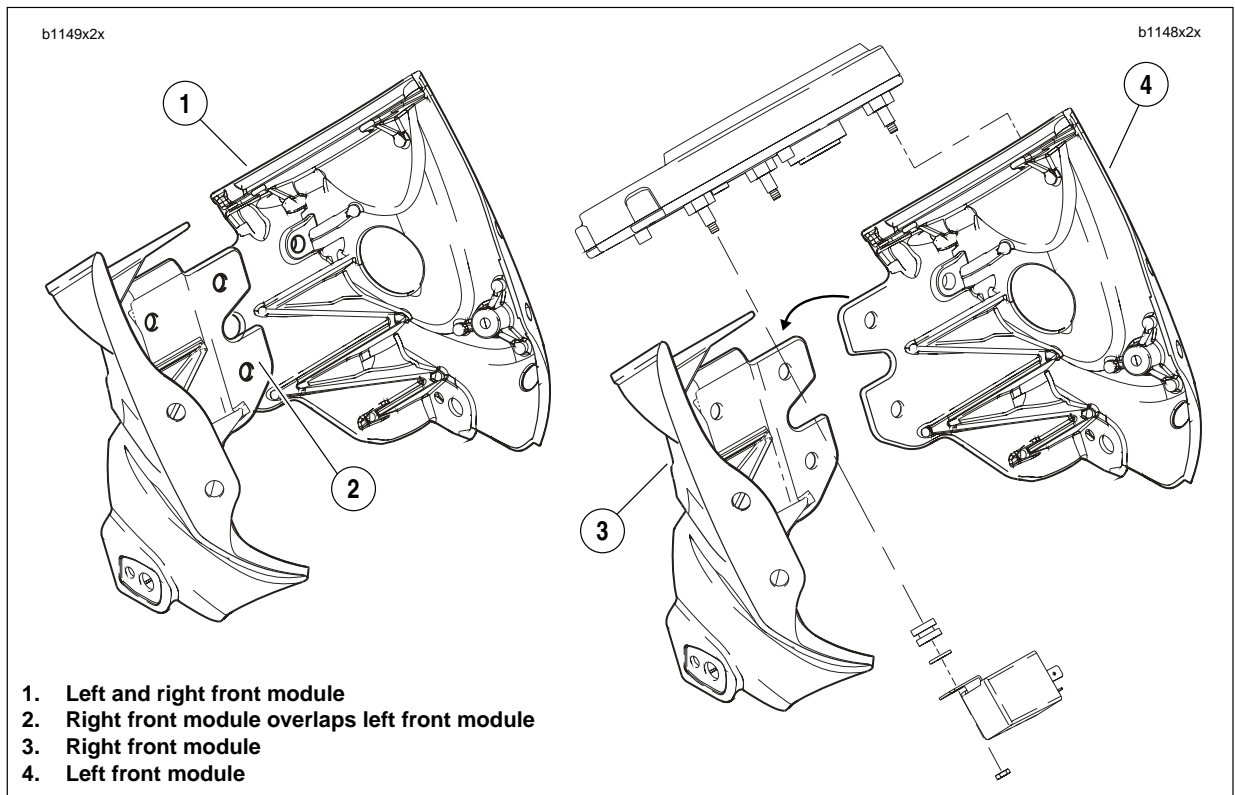

Figure 2-111. Fairing Support Bracket Assembly
See Figure 2-111. Once the clamp load has been released on the final fastener securing the right front module to the upper triple clamp, the left front module can be removed.
9. See Figure 2-111. Remove the left front module.